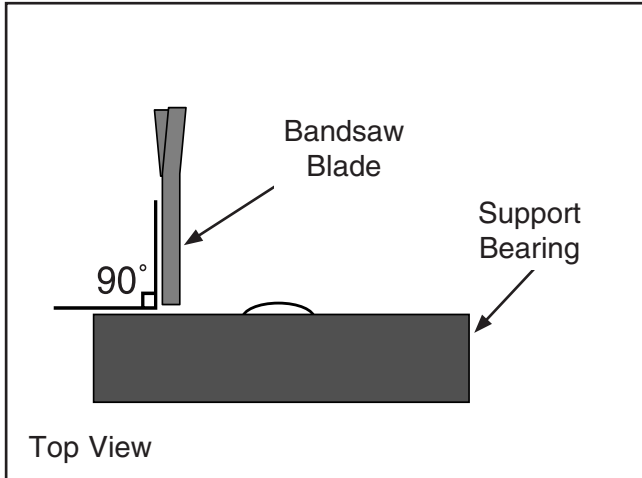

Figure 31. Blade should be perpendicular (90°) to the face of the support bearing.
5. Rotate the blade guide assembly side-to-side, until the blade is perpendicular to the face of the support bearing as illustrated in **Figure 31**.